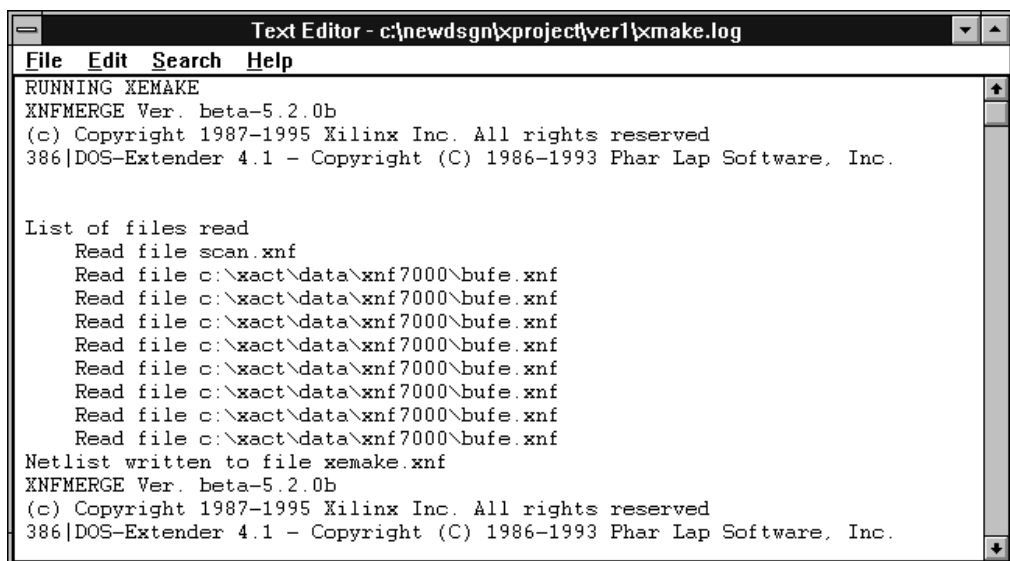

Figure 2-10 Translation Log Report
7. From here, if you select Review log, you will see the Translation log report as shown in Figure 2-10.
From here, if you select Review log, you will see the Translation log report as shown previously in Figure 2-10. Select OK and you are returned to the previous menu.